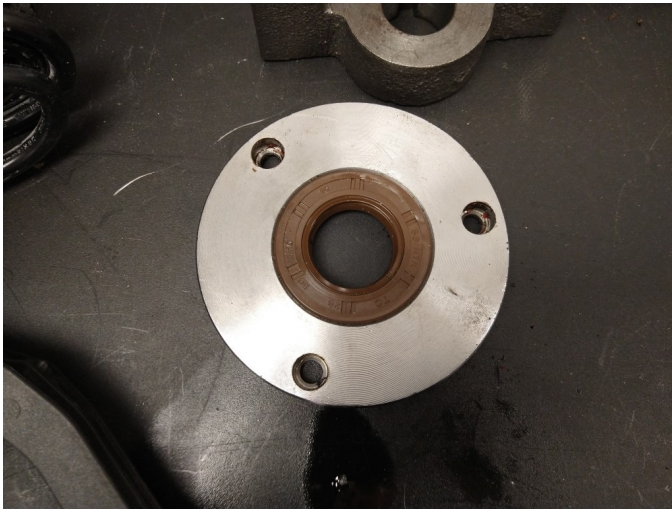
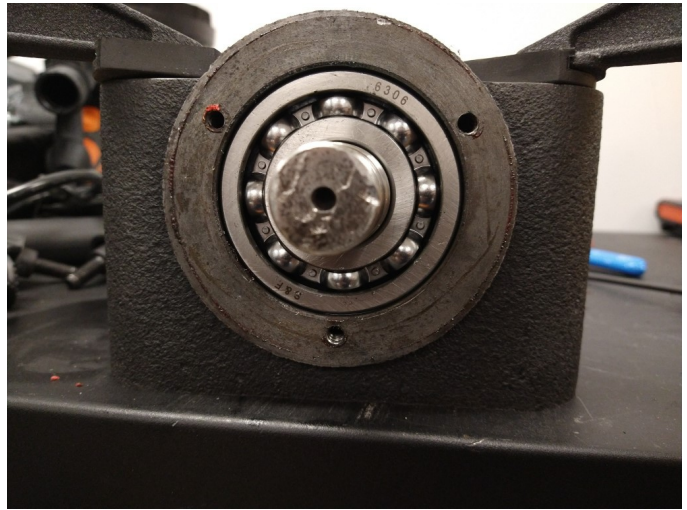

Fig. 20: Bearing cover removed.
Fig. 21: Bearing exposed.
15. Remove the bearing cover and oil seal (brown seal shown around the shaft in Fig. 18 above) from the main body. You may need to clamp the main body to the table to do this. It is easiest to gently twist the cover and seal off the shaft; you can also **gently** use a flat-head screwdriver to help loosen it from the body. Be careful not to damage the bearing cover. Once the bearing cover is removed (Fig. 20), the bearing is exposed (Fig. 21).